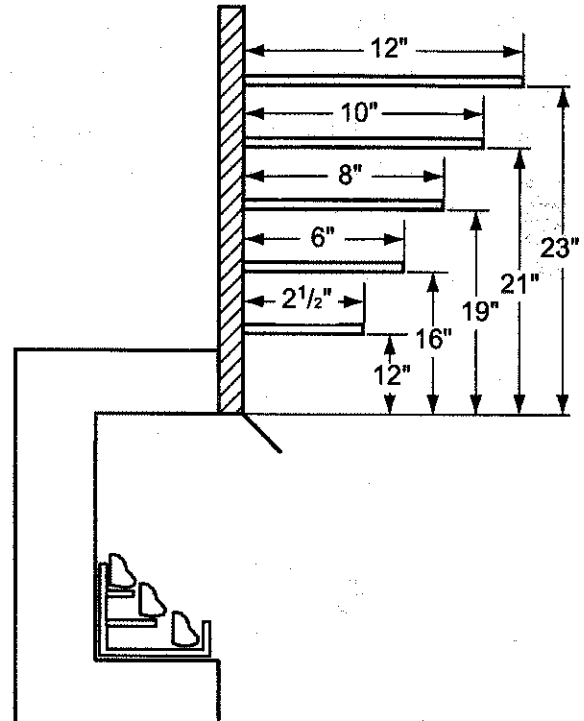

**Figure 5 - Mantel Clearances for Model GCUF32**
4. **Mantel clearances:** The canopy supplied with the unit must be installed. If a combustible mantel is installed, it must meet the clearance requirements as shown in *Figures 5 and 6*. However, if lower mantel height is desired, refer to page 14 for canopy options.